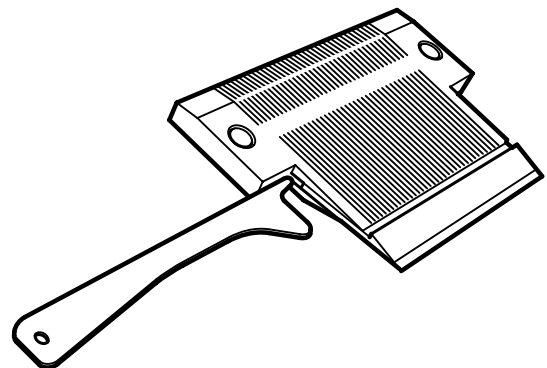

Figure 26 — Removing the slicing knife from holder.
3. **Remove slicing knife from holder:** Insert small tab of knife remover against angled corner of slicing knife (Figure 26). Tap opposite end of remover lightly to start knife out of slot. Pry knife up then use large tab with a jacking motion to force knife further out of the slot. When you can grasp knife safely, remove from holder.